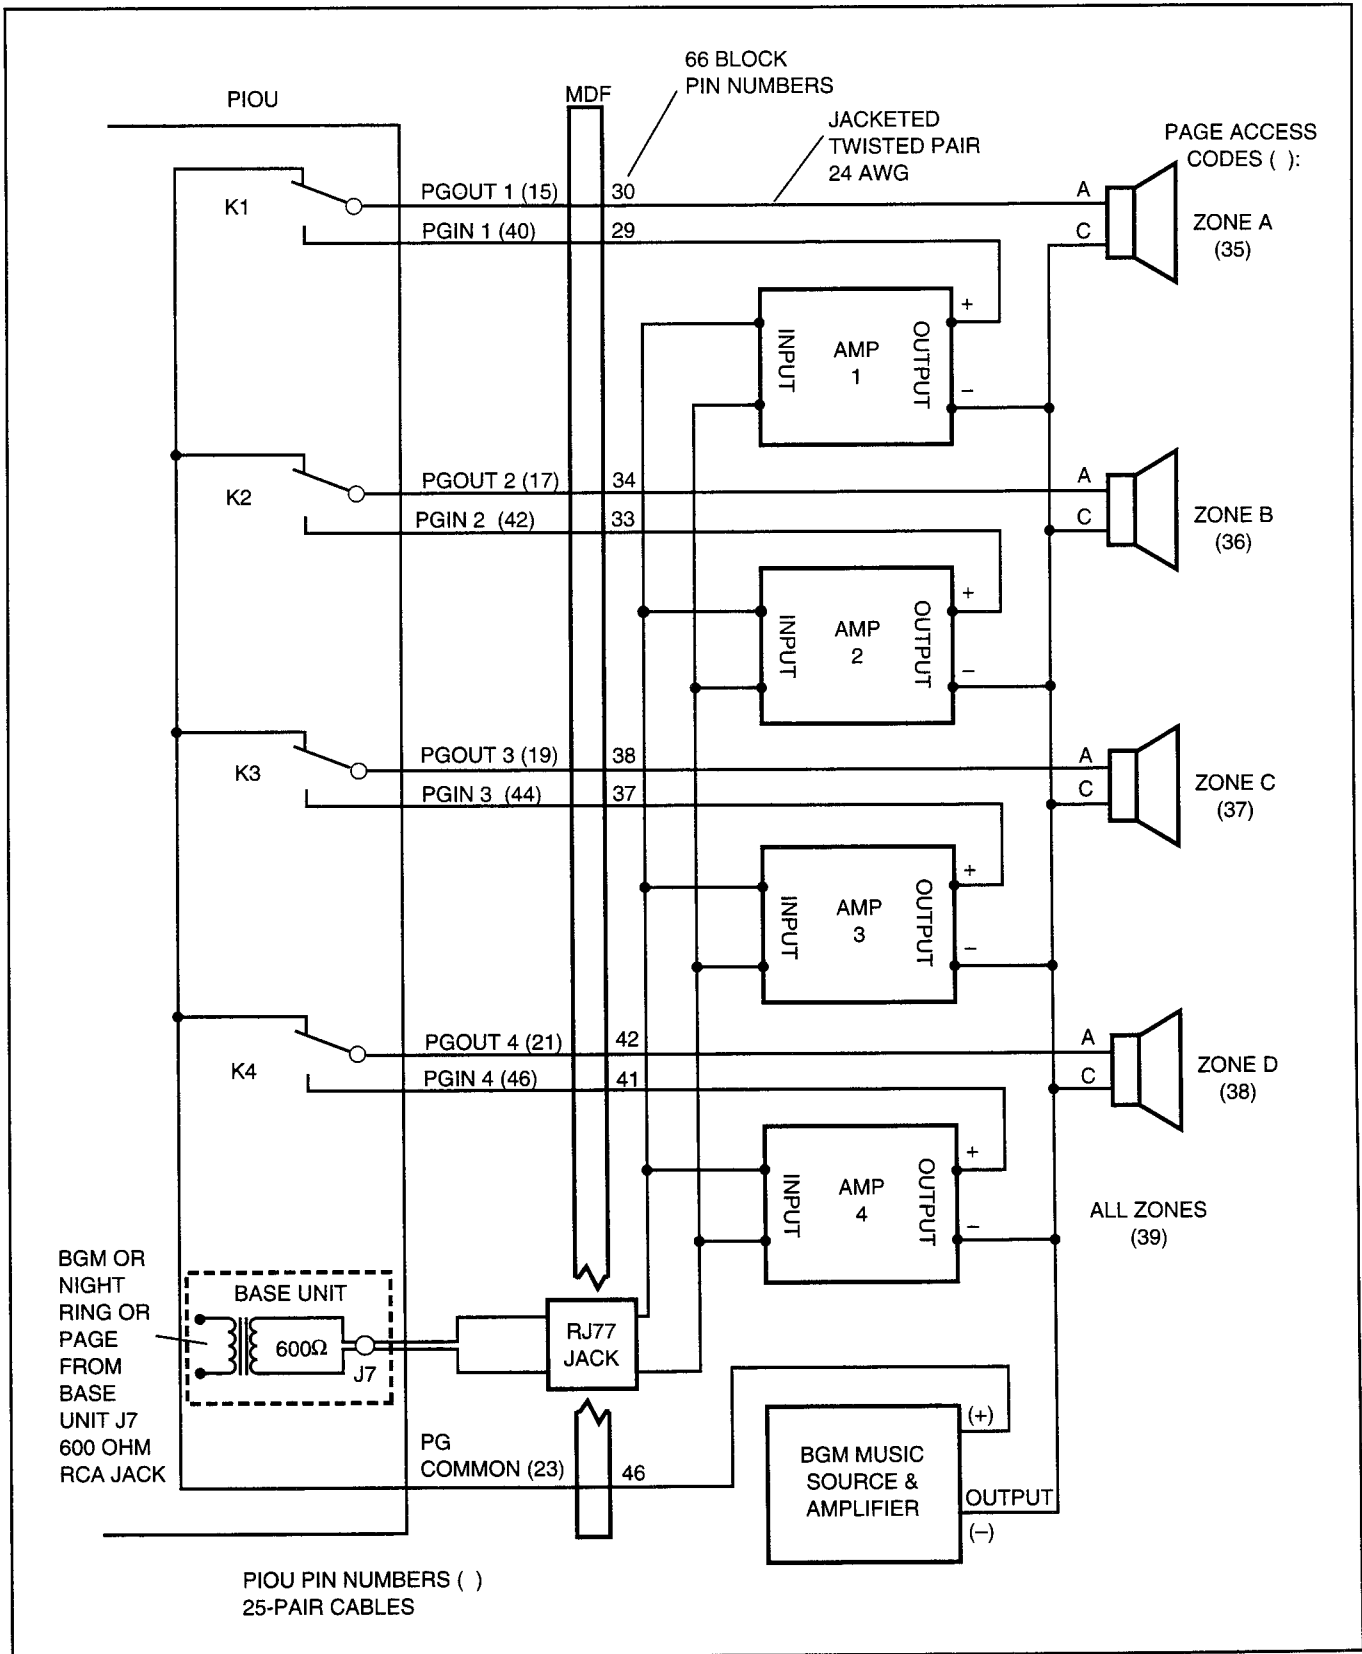

FIGURE 7-17
5.15 DK16 Zone Page with BGM (multiple amplifiers). This configuration also provides multiple-zone paging capability, as in Paragraph 5.13. However, separate amplifiers are used for each zone. Install this option in accordance with the following steps (refer to Figure 7-17):